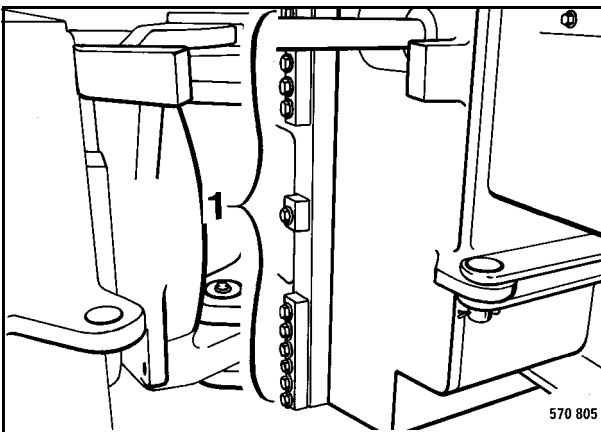

Fig. 12
21. Unscrew all hexagon screws 1 (Fig. 12) from the console